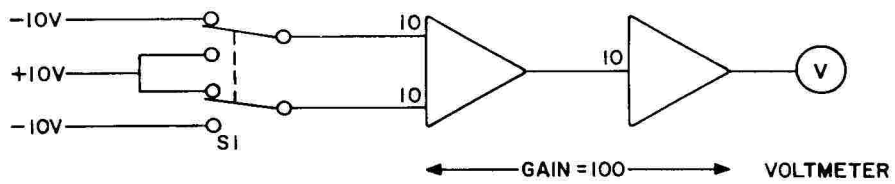

Figure 64. Reference Balance Test Circuit
- (a) Connect the circuit shown in Figure 64. Place the voltmeter on the 0.1 volt range.